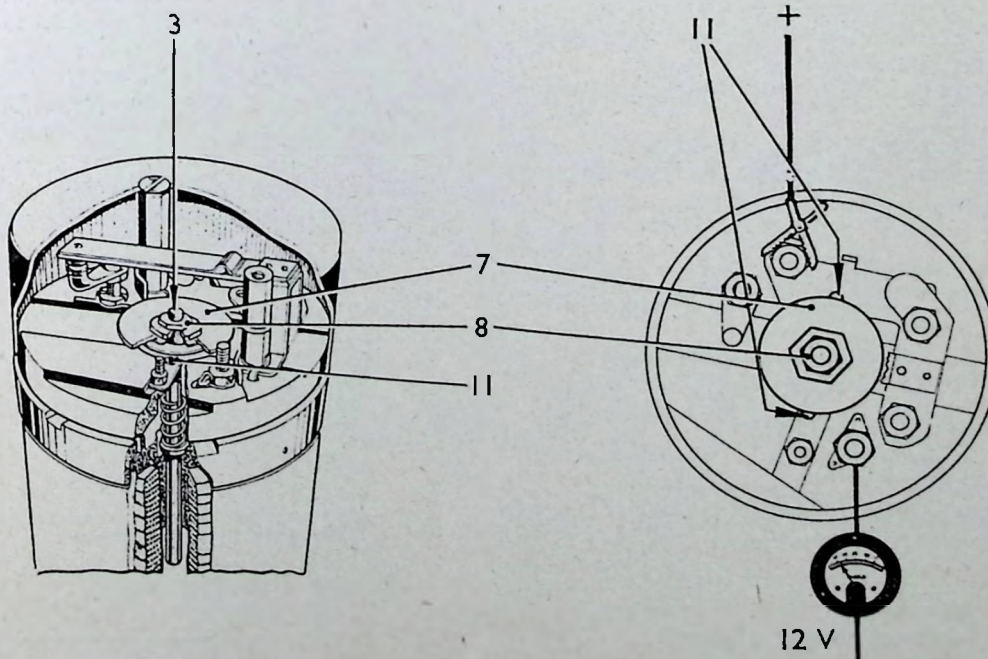
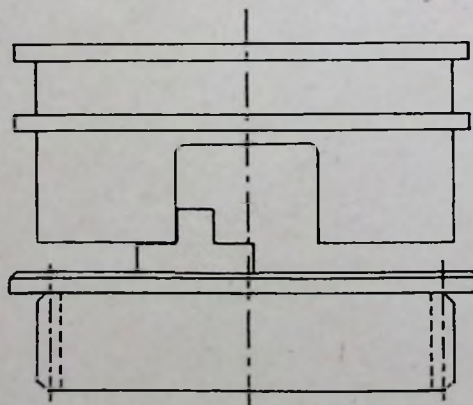
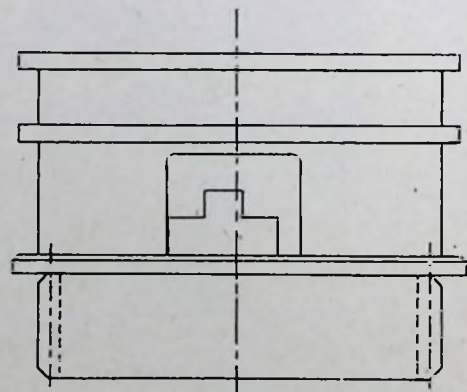

FIG. 57 — Dog switch adjustment.
FIG. 59.—True baulked condition.
FIG. 61.—Fully-engaged condition.
Connect a 12-volt supply with an ammeter in series to + and - terminals (Fig. 57). Consumption should not exceed 26-30 amps.
- (2) Obtain the baulked condition (Fig. 59) as follows: Move the forward/reverse lever on the gearbox towards the rear of the car. Energise the solenoid with the 12-volt supply as shown in Fig. 57. In most instances, the dogs will be baulked, as shown in Fig. 59, but it may happen that the dogs are synchronised in which case the dog clutch will engage fully as in Fig. 61. If this happens, de-energise the solenoid, rotate the output shaft slightly to upset synchronisation, and energise the solenoid again.
- (4) Finally, note the fully-engaged condition (Fig. 61). Obtain this by intermittently energising the solenoid whilst rotating the output shaft to and fro, until the dog clutch is fully home. In this condition, the solenoid plunger is at the end of its travel and has opened the large solenoid switch (SS).
- (1) Energise the solenoid.
- (2) Check that true baulked condition has been obtained.
- (3) Slacken the locknut (8, Fig. 57) (use the special spanners RG 262).
- (4) Adjust the height of contact disc (7) until it just touches fixed contacts (11). During this operation a pressure should be applied to the end of the switch disc plunger (3) with an insulated rod, to ensure that the plunger maintains contact with the armature.
- (5) De-energise solenoid.